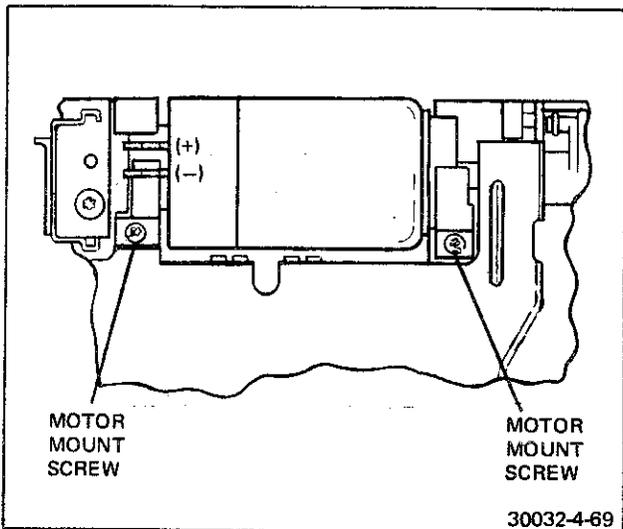

FIGURE 4-69 MOTOR MOUNT SCREWS
- The motor is secured in place by two curved clamps that partially encircle the motor bearing housings. Each clamp is secured by a single screw. Loosen the two screws and swing aside the two clamps. See Figure 4-69.